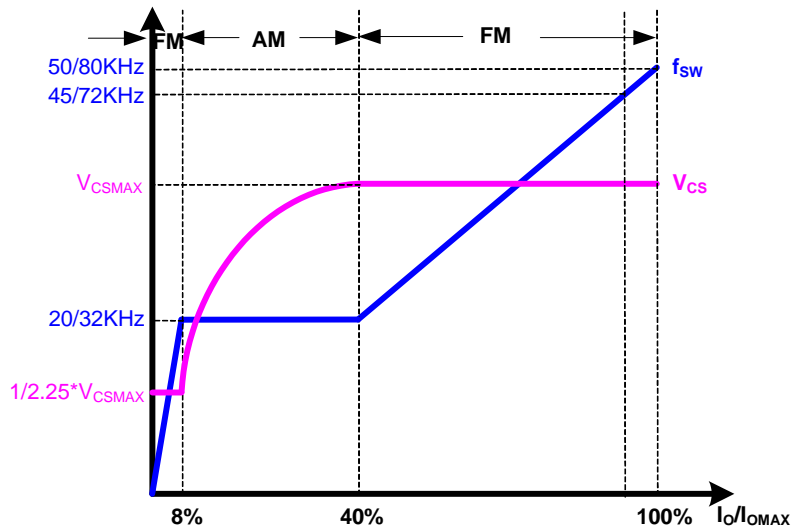

Figure 4. Segment Peak Current and Operating Frequency at CV Mode
In order to avoid audible noise issue, AP3785T uses 3-segment primary peak current control method at constant voltage (CV) mode, the current sense threshold voltage is multiple segments with different loading, as shown in Figure 4, which are V_{CS_H} for high load, varied V_{CS_M} for medium load and V_{CS_L} for light load. In no load and ultra light load condition (NL mode), the current reference is also V_{CS_L} . But the operation in NL mode is different, which will be described in next section.